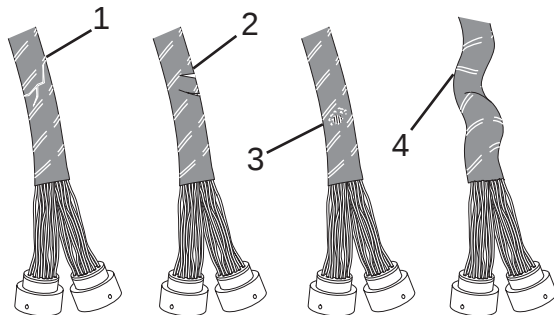

Figure 109
- Cracks (Figure 109, Item 1)
- Cuts (Figure 109, Item 2)
- Abrasion (Figure 109, Item 3)
- Twisting (Figure 109, Item 4)